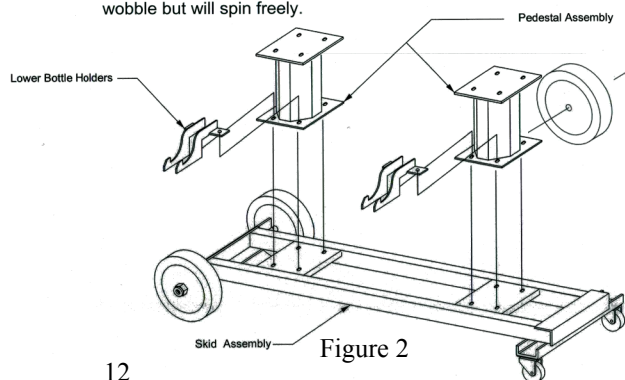

Figure 2
- 4) Repeat Steps 1 thru 3 if the skid assembly requires a second pedestal as shown in Figure 2